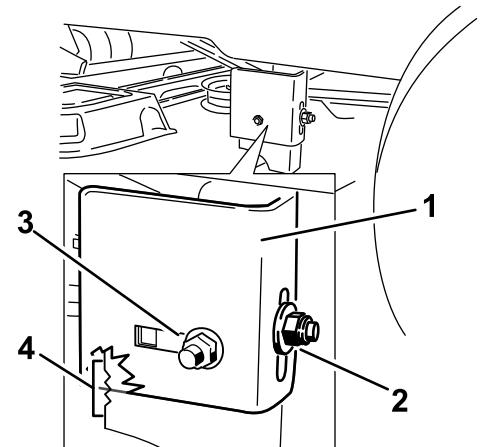

Figure 56
- 9. Loosen the rear locking nut on the hanger bracket (Figure 56).
- 10. Loosen the side locking nut on the hanger bracket just enough to allow the hanger to be adjusted (Figure 56).
13. Stop the deck at the adjusted position, and tighten the side locking nut on the hanger bracket to hold the new position (Figure 56).